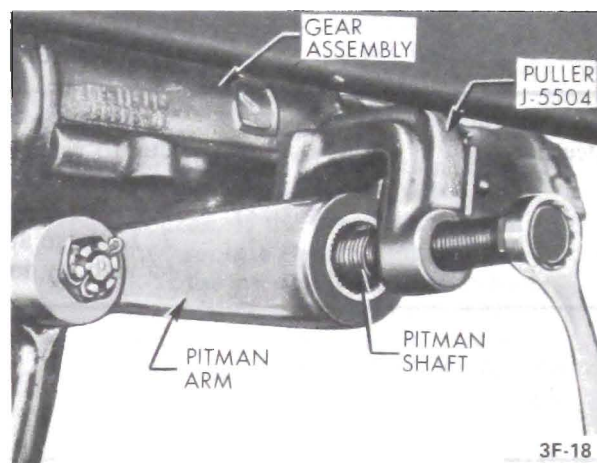

Figure 3F-8 - Removing Pitman Arm From Pitman Shaft
1. Loosen the pump bracket adjusting bolts (2) and nut (1). See Figure 3F-51. Also loosen lower A.I.R. bracket bolt.
1. Loosen pivot bolt and pump brace adjusting nuts. Figure 3F-53
1. Remove pitman arm nut and disconnect pitman arm from pitman shaft using puller J-5504. See Figure 3F-8. Do not hammer on end of puller.